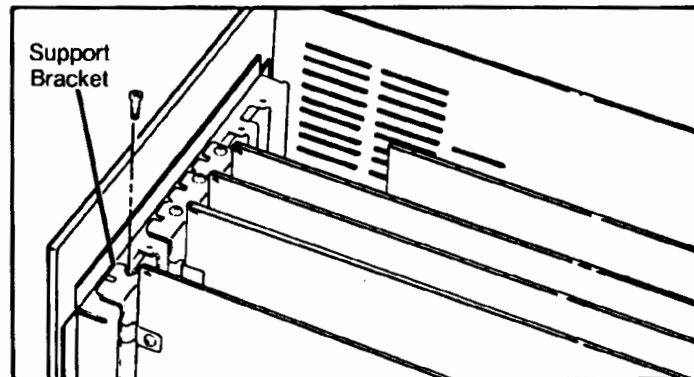

Figure 3-8. Replacing the Slot Cover Screw
8. With the slot cover screw, secure the support bracket of the interface card to the back panel of the computer, as shown in figure 3-8.